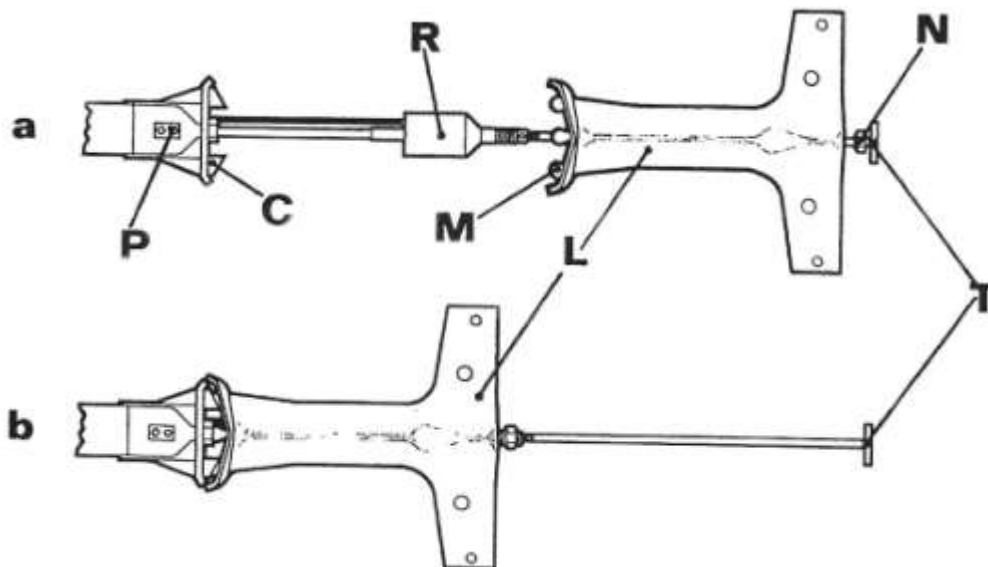

Figure 1
Assembly of Leg Bracket (Fig. 1)
- 2) Remove nut 'N' (Fig. 1).